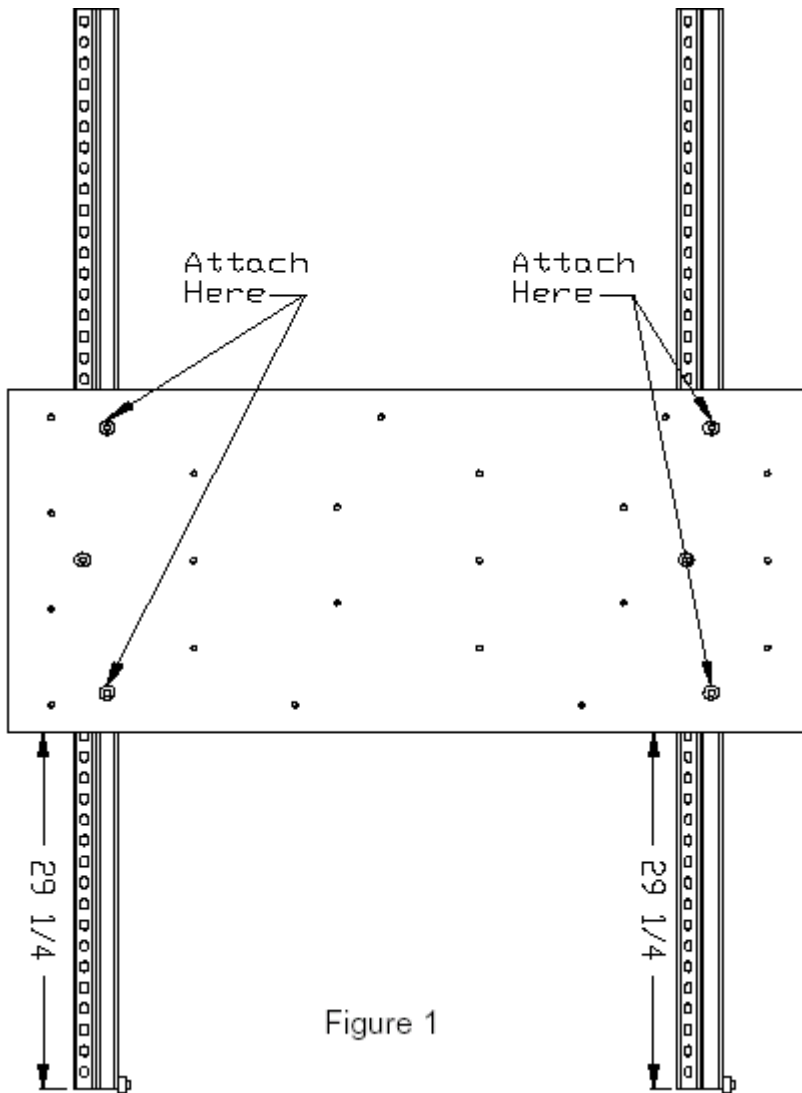

Figure 1
4. To attach the panel to the channel you will use the M12 45mm (1/2-13 x 1-3/4") button head socket bolts. Put a bolt through each of the four attachment holes in the panel from the front side (see figure 1), the front side of the panel does NOT have the metal inserts. Put a channel nut on each bolt with the grooves on the nut facing the wood panel. Note: Channel Nuts are rectangular nuts with two toothed grooves on one side.
7. Following Sequence A, B and C below, line up the nuts with the opening in the outside channel (A), set the panel onto the strut with the nuts going into the channel (B), and tighten all four bolts (C).